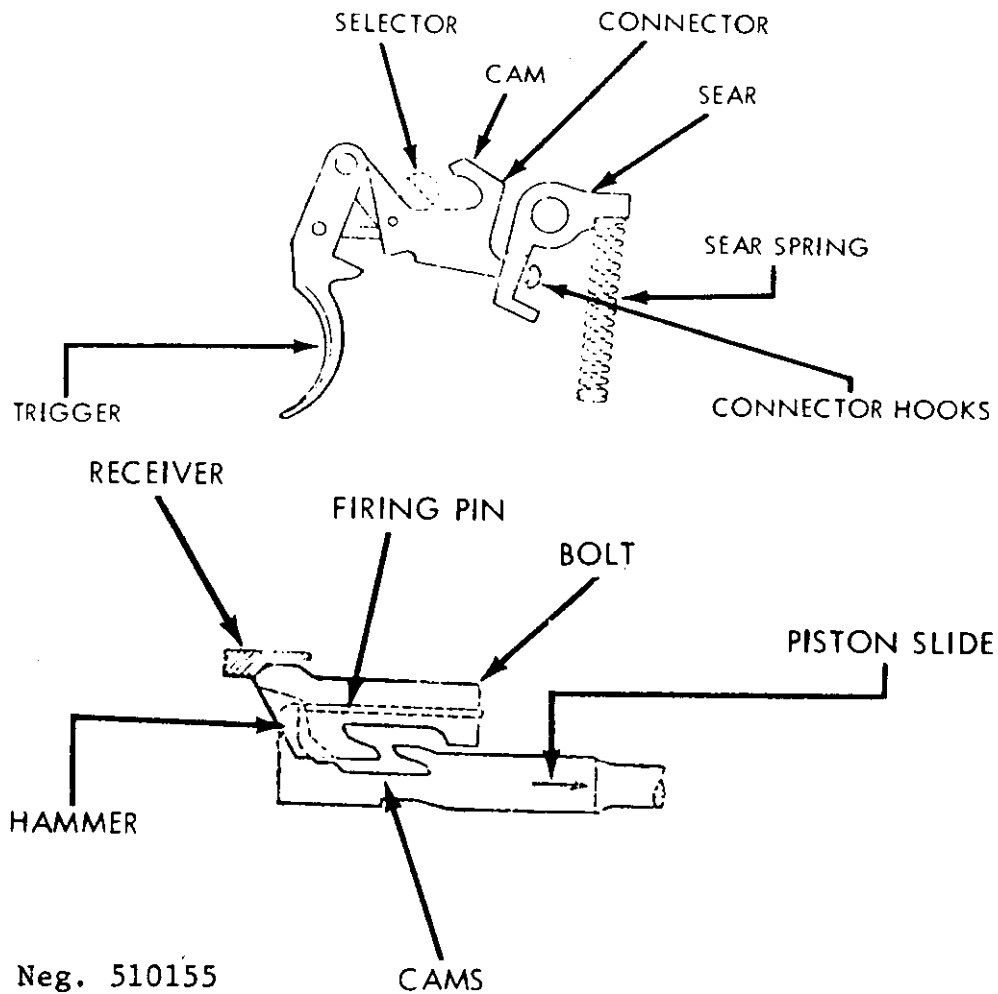

Figure 156. Bren bolt and trigger mechanism functioning.
the slide (fig 156), and the compressed driving spring forces the slide and bolt forward. The feed ribs on the top of the bolt force a cartridge from the magazine and drive it into the chamber. The front of the bolt strikes the end of the barrel, the extractor snaps into the groove of the cartridge case, and the bolt stops. The slide continues forward, and a cam on its top side forces the sear end of the bolt upward into its seat in the receiver. The slide then continues forward a short distance, and its hammer (fig 156) strikes the firing pin to ignite the cartridge.
d. As the slide moves, the cams on the slide (fig 156) contact the bolt and pull it down from its locked position; when unlocked, the bolt and slide travel rearward as a unit. The extractor pulls the fired cartridge case from the chamber and holds the case to the bolt until the ejector strikes the case. The case then pivots on the extractor and is expelled through the ejection port in the bottom of the gun. The slide finally strikes the buffer and stops. The driving spring then drives the slide forward, and another cycle commences.
e. The Bren trigger mechanism can be set for either semi- or full-automatic fire by rotating the selector (fig 156). When the selector is rotated forward to the full automatic setting, a solid section on its shaft depresses the connector, which fits through a hole in the lower arm of the sear. As the trigger is pressed, the connector moves forward; the lower hook (fig 156) engages the sear and causes it to rotate about the pin. The sear nose releases the slide and, the firing cycle commences and continues until the trigger is released and the sear spring forces the sear up to intercept the slide.
f. When the selector is rotated rearward to the semiautomatic setting, the connector rises to its highest position; as the trigger is pressed, the upper hook of the connector rises to its highest position. As the slide drives forward, it hits the cam (fig 156) on the connector and forces the connector down. The hook releases the sear that, because of its spring, snaps up and catches the slide when it recoils. Thus only one shot is fired; the
g. When the selector is rotated to its middle or safe position, the hooks are positioned centrally in the hole in the sear (fig 156). Thus, when the trigger is pressed, the connector hooks do not activate the sear to release the slide.